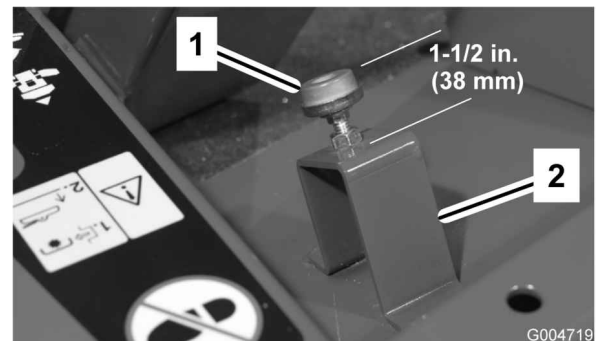

Figure 67
2. Check the traction pedal stop adjustment. The distance from the top of the stand to the top of the stop must be 1-1/2 inch (38 mm) (Figure 67). Loosen the nuts and adjust, as required.